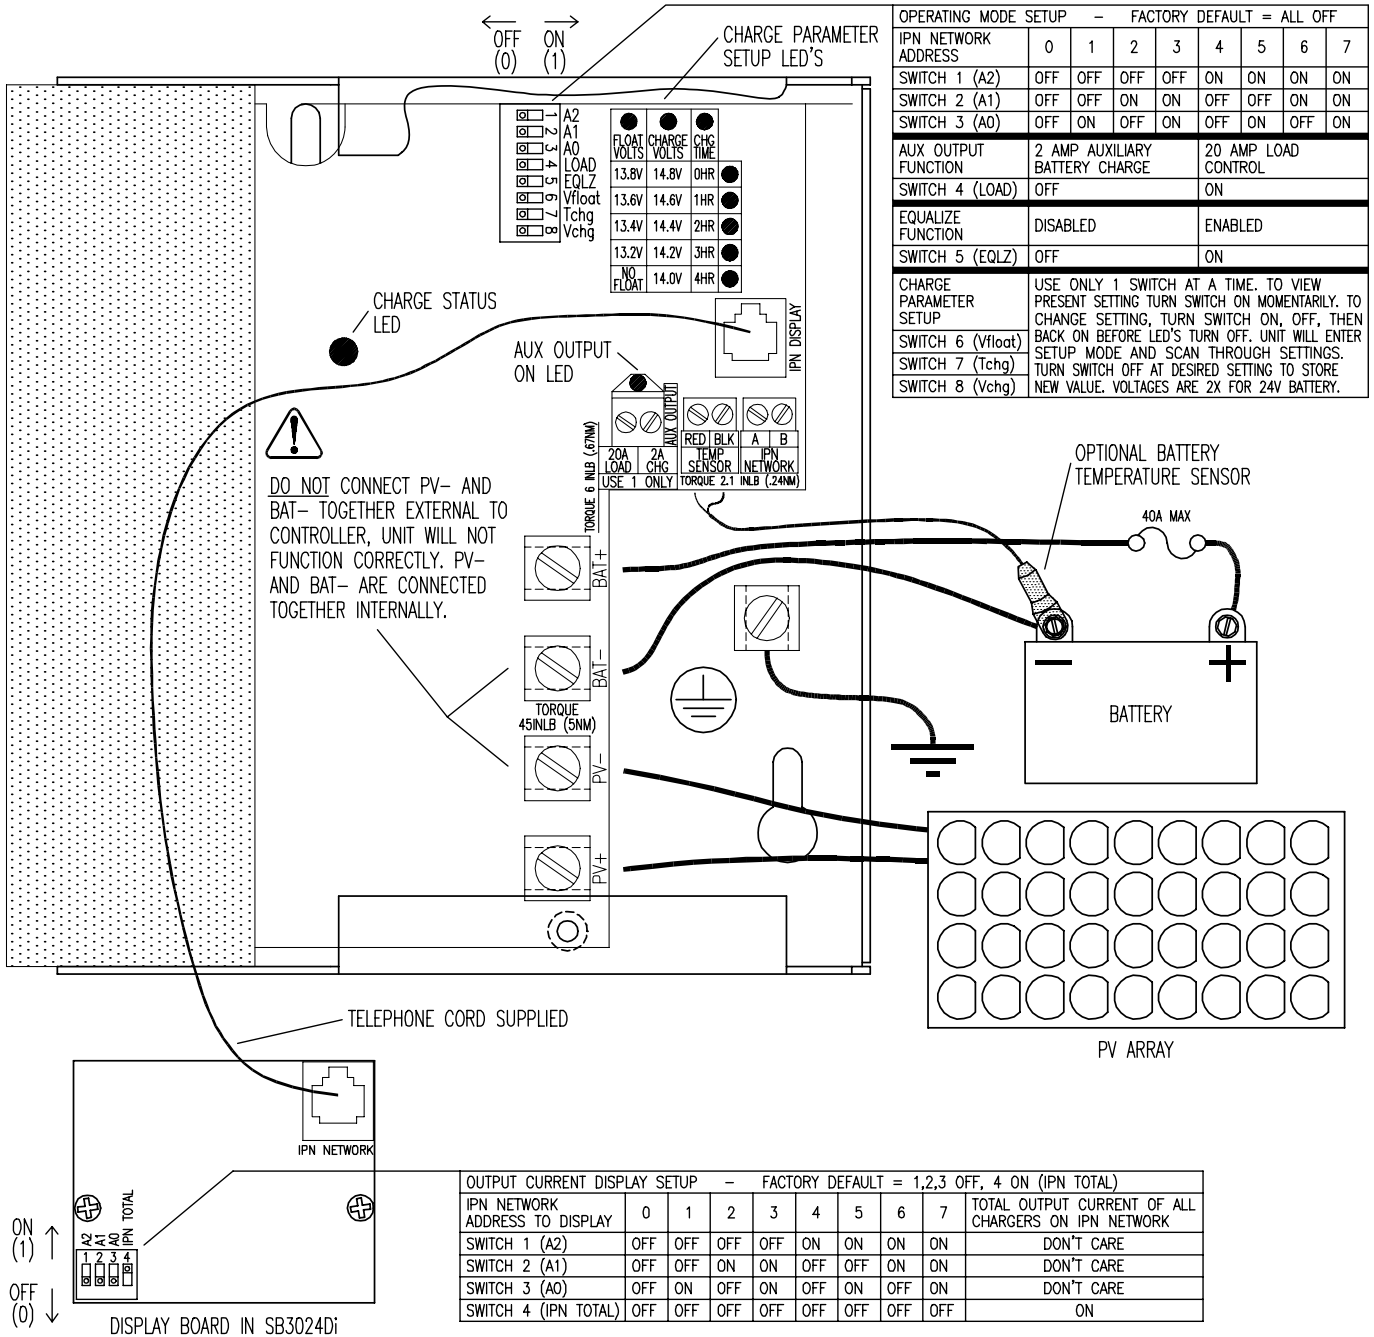

FIGURE 3
➤ **WARNING:** Read, understand and follow the Important Safety Instructions in the beginning of this manual before proceeding. Do not connect a PV array capable of delivering greater than 24A of short circuit current (I_{SC}) at STC, which equates to roughly 400W or 800W of PV power into a 12V or 24V battery respectively. To reduce the risk of fire, connect only to a circuit provided with 40 amperes maximum branch-circuit over current protection. Product must be installed and wired in accordance with National Electrical Code, ANSI/NFPA 70. To reduce risk of electric shock, remove all sources of power, PV and battery before installing or servicing. Adjustments or connections other than those shown in Figures 3, 4 and 5 void the limited warranty. Figures 3, 4 and 5 show generalized connections only and are not intended to show all wiring, circuit protection and safety requirements for a photovoltaic electrical system.
2. Turn ALL 8 DIP switches shown in Figure 3 ON.
These setup options are configured with a single 8 position DIP switch located on the main circuit board as shown in Figure 3. All parameters are saved by switch position or in non-volatile memory and are retained if power is lost.
The factory Acceptance charge voltage setting of 14.4/28.8V is suitable for most lead-acid batteries. The setting can be viewed or changed using the charge parameter setup LED's and operating mode DIP switch shown in Figure 3. To view the present setting, turn the V_{CHG} switch #8 ON momentarily. If more than one value LED lights, the present setting is in-between these values. If no value LED's light, the present setting is outside the range than can be shown. For a 24V battery the actual setpoint is double that shown on the LED's.
The factory Float charge voltage setting of 13.2/26.4V is suitable for most lead-acid batteries. The setting can be viewed or changed using the charge parameter setup LED's and operating mode DIP switch shown in Figure 3. To view the present setting, turn the V_{FLOAT} switch #6 ON momentarily. If more than one value LED lights, the present setting is in-between these values. If no value LED's light, the present setting is outside the range than can be shown. For a 24V battery the actual setpoint is double that shown on the LED's.
Once the battery recovers sufficient charge to reach the Acceptance charge voltage setpoint, it will remain at this voltage for the Charge Time period, and then the unit will switch to Float. The default Charge Time setting of 2.0 hours is suitable for most lead-acid batteries. The setting can be viewed or changed using the charge parameter setup LED's and operating mode DIP switch shown in Figure 3. To view the present setting, turn the T_{CHG} switch #7 ON momentarily. If more than one value LED lights, the present setting is in-between these values. If no value LED's light, the present setting is outside the range than can be shown.
> **WARNING:** This unit must be installed and wired in accordance with National Electrical Code, ANSI/NFPA 70. Over current protection for the battery must be provided externally. To reduce the risk of fire, connect to a circuit provided with 40 amperes maximum branch-circuit over current protection in accordance with National Electrical Code, ANSI/NFPA 70. Figures 3, 4 and 5 show generalized wiring information only and do not include all wiring and safety requirements for a photovoltaic electrical system.